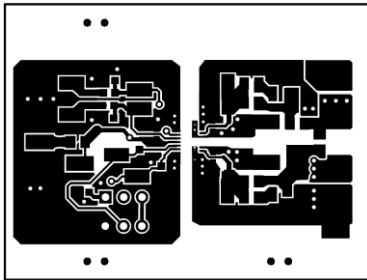
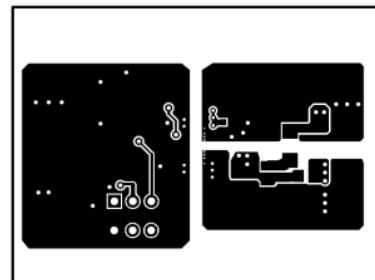

図 10-1. Top Layer Traces and Copper
図 10-2. Bottom Layer Traces and Copper
- Increasing the PCB copper connecting to VDDA, VDDDB, VSSA and VSSB pins is recommended, with priority on maximizing the connection to VSSA and VSSB (see 図 10-1 and 図 10-2). However, high voltage PCB considerations mentioned above must be maintained.